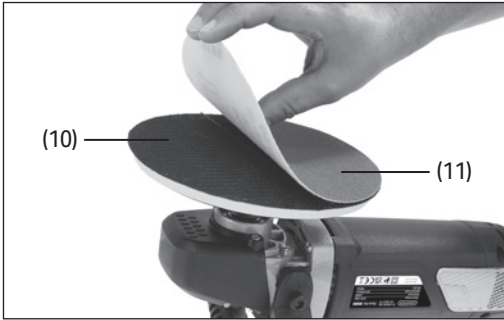

Fig.5
- Push and hold the spindle locking button (1) in to lock the M14 spindle (8).
- Then attach the backing pad (10) to the spindle and turn clockwise until secured.
6.4 Fitting the Sanding Disc (Fig.5 – Fig.6)